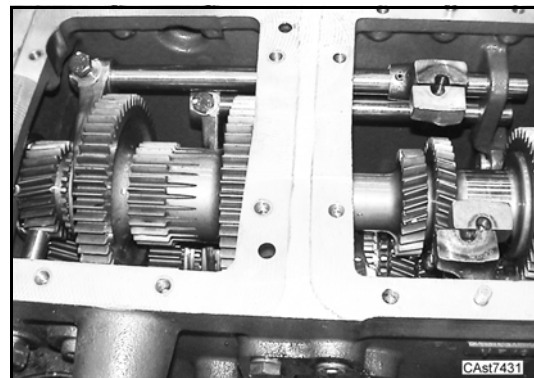
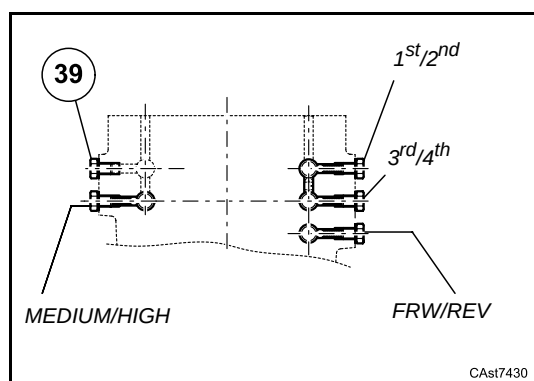

Figure 29
Figure 30
- 1. Assemble pin (35) on the fork (42).
- Refer to: figure 29.
- 2. Assemble washer (41) and screw (40) on the fork (42).
- 3. Insert split pin (35).
- 4. Assemble in the following order: ball (36), spring (37), washer (38) and screw (39).
- Refer to: figure 30.